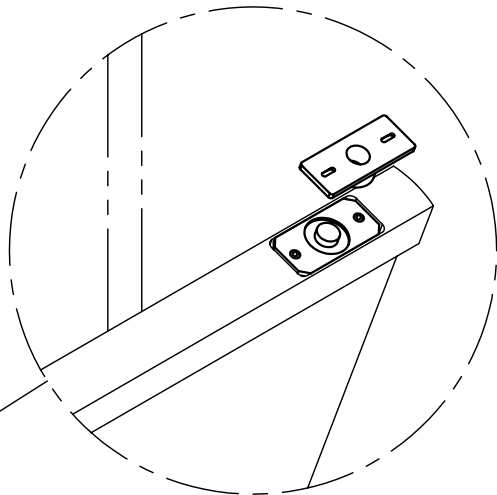

FIGURE 2
3. REMOVE AP-150 TOP PIVOT RECEPTACLE AND PLACE ON DISPLAY DOOR TOP RAIL PIVOT PIN. (SEE **FIGURE 2**)